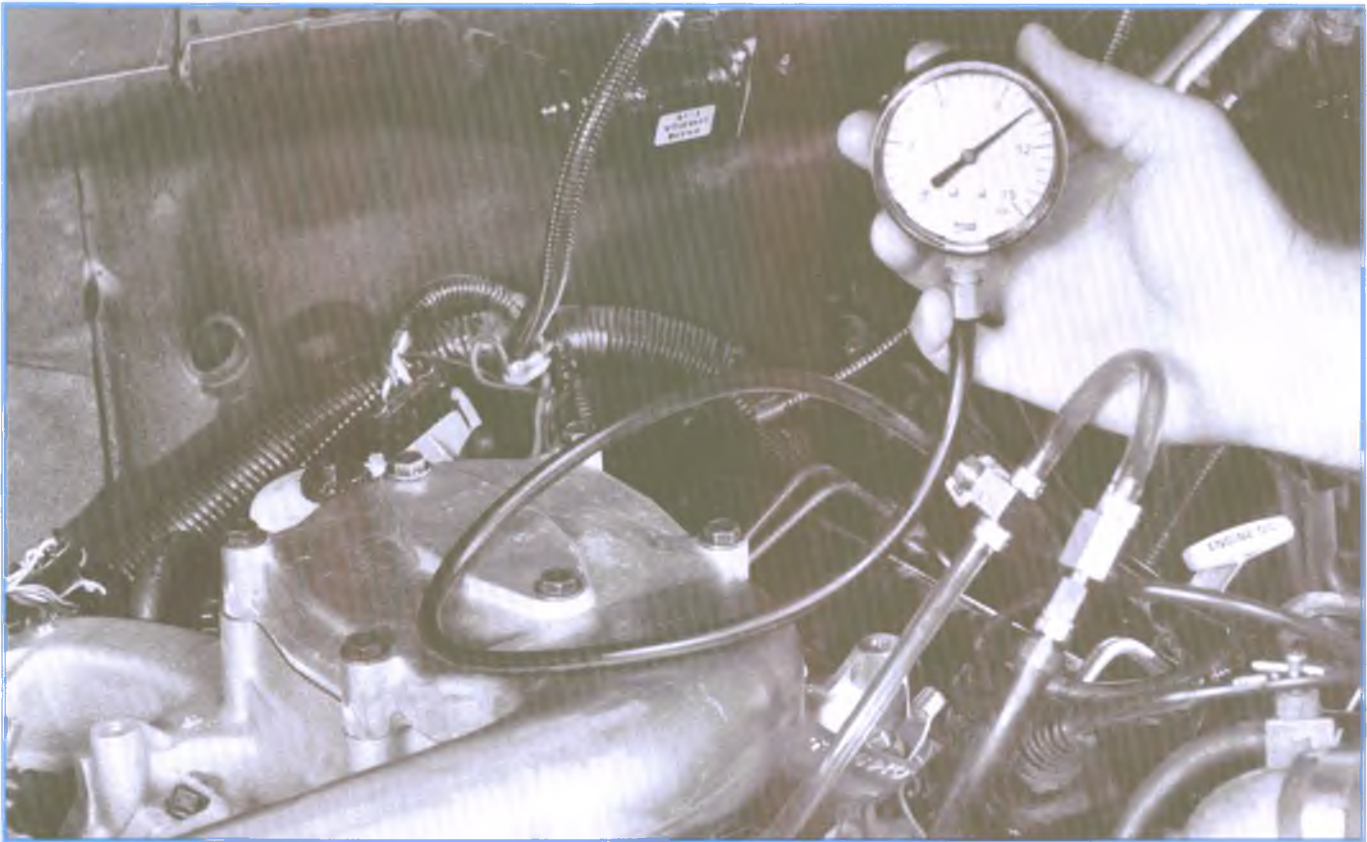

Figure 7-70, Housing Pressure Check
- D. Start and run the engine, observing the gauge reading (see Figure 7-70):